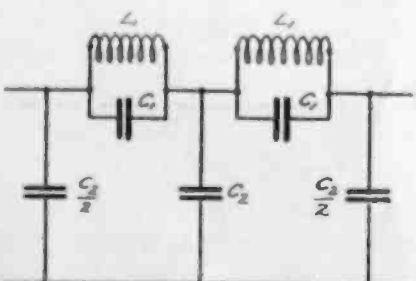
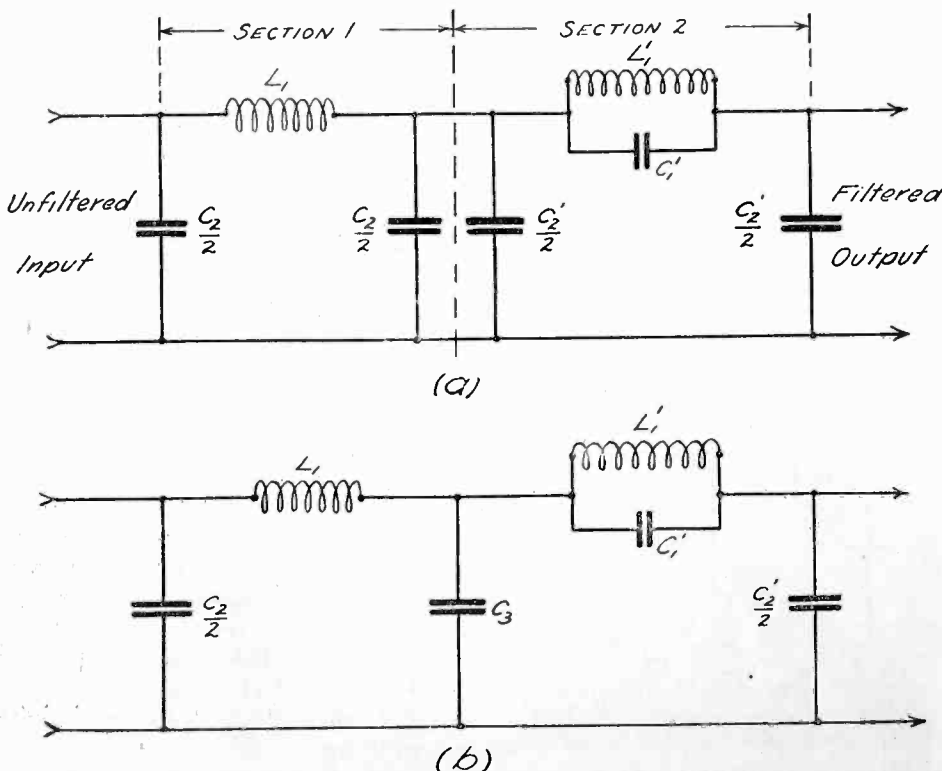
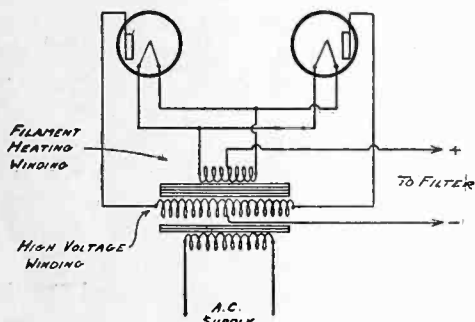

Fig. 2. Various Arrangements of Low-Pass Filters.
Fig. 3. Filter Circuit Whose Constants are Calculated in This Article.
Fig. 6. Two-Tube Rectifier.
The circuits of Fig. 2-a have the following properties:
The circuits of Fig. 2-b have the following properties:
The circuits of Fig. 2-c have the following properties:
- (1) Same as for Fig. 2-b.
- (2) Same as for Fig. 2-b.
- (3) For frequencies higher than that corresponding to maximum attenuation, the attenuation falls off again to some finite value at infinite frequency.
- (4) These circuits depend for their frequency of maximum attenuation upon the parallel resonant circuit in series with the line; hence the deficiencies of the circuits of Fig. 2-b are somewhat overcome.
A circuit consisting of a "π" section of Fig. 2-a together with a "π" section of 2-c is shown in Fig. 3. In this circuit the advantages of both the above mentioned circuits are obtained.
L_1, L_2, C_1, C_2 = values of inductances and capacities which are to be determined. These values refer specifically to corresponding symbols in Fig. 2.
The formulas by which the various values of inductance and capacity can be found, are noted below each of the circuits of Fig. 2. The filter circuits shown consist of two sections each, and in adding or subtracting sections or in combining sections of other types, it is important to isolate the individual sections before combining the inductances and capacities at the junction ends of the sections. Fig. 3-a illustrates this point. In this filter, which consists of one "π" section of the type found in the right hand circuit of Fig. 2-a and a "π" section of the type found in Fig. 2-c, the two capacities, $C_2/2$ and $C_1^2/2$, are each in a separate section and their values must be determined independently. After this is done, a single capacity having a value equal to their sum may be substituted as shown at C_3 of Fig. 3-b.
Let us now turn our attention to the design of a composite filter of the type shown in Fig. 3-a. Both sections are of the "π" type. It was previously explained in connection with filter performance that the attenuating value of section 1 increases as the frequency increases and is infinite for infinite frequency. That of section 2 increases rapidly from the cut off frequency to the frequency of maximum attenuation, then falls off again to some finite value at an infinite frequency. A combination of the two sections yields great attenuation over all frequencies and the cut off is quite sharp. This point could be further sharpened by the addition of more sections like that of section 2 but we have no interest in such a refinement here since our primary interest lies in eliminating all frequencies within the limitations of practicability.
Fig. 6 and it is desired to rectify the output by means of the circuit shown in Fig. 3. The rectified output is to be used to supply two 50-watt tubes (UV 203) and the transmitter is to be used for C.W. signalling. Such a rectifier circuit as that of Fig. 6 gives an output wave having a frequency of twice the rectifier input frequency. Many attendant harmonics of this double frequency are usually present and these together with many transients must also be eliminated. The 120 cycle fundamental, due to rectifying 60 cycle current, is by far the most pronounced. The filter will therefore be designed to give maximum attenuation or the best filter effect on 120 cycles. Therefore $f_{\infty}=120$.
The solution of the problem now lies in dropping the above values of f_{∞} , f_0 , and Z_0 into the formulas found in Fig. 2, below the sections corresponding to those of Fig. 3-a.
For the first section of Fig. 3-a, we have